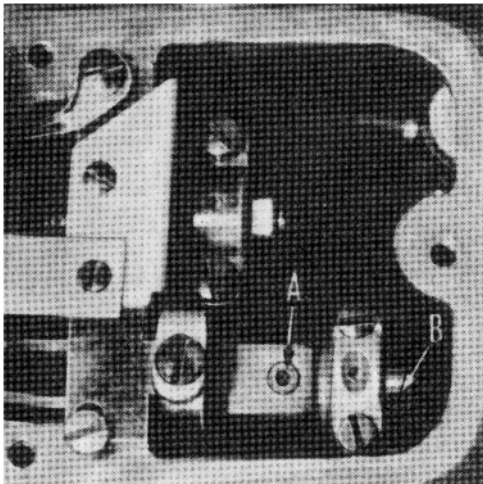

Fig. 4
If additional adjustment is required, it can be obtained by loosening set screw (A, Fig. 4) and turning the eccentric ball joint stud (B), located at the right end of the needle bar frame under the top cover, either clockwise or counterclockwise.